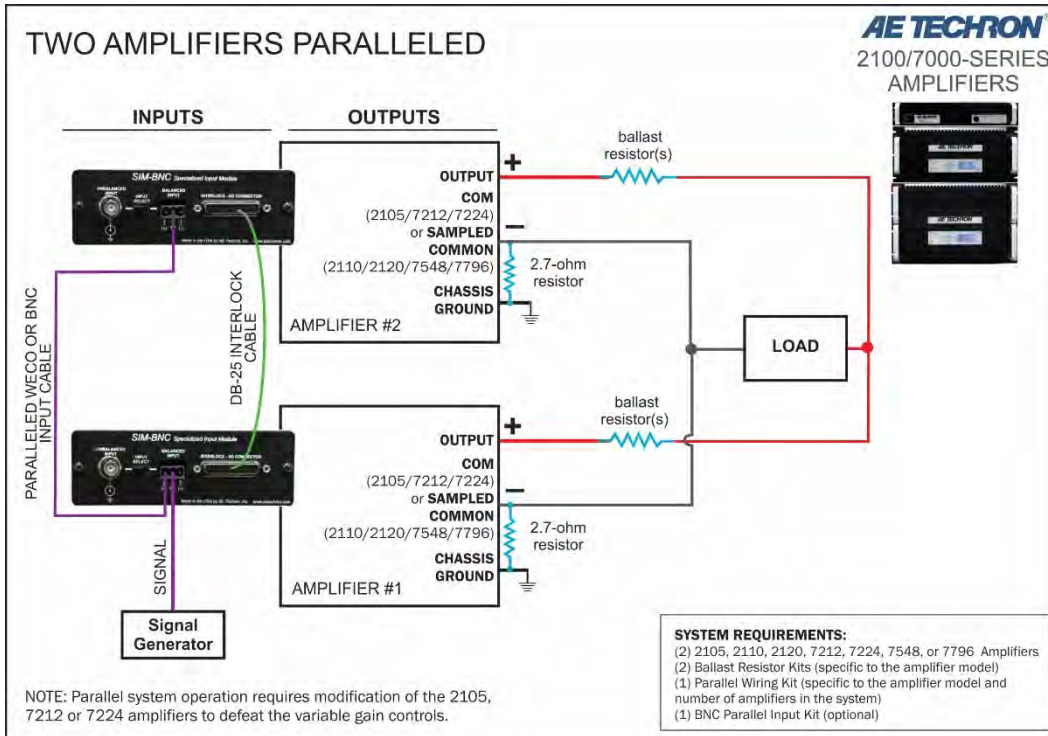

Figure 4.15 – Two Amplifiers Paralleled
3. Check to ensure that all system wiring has been correctly installed as shown in the following system diagrams (see **Figure 4.15, 4.16 or 4.17**).